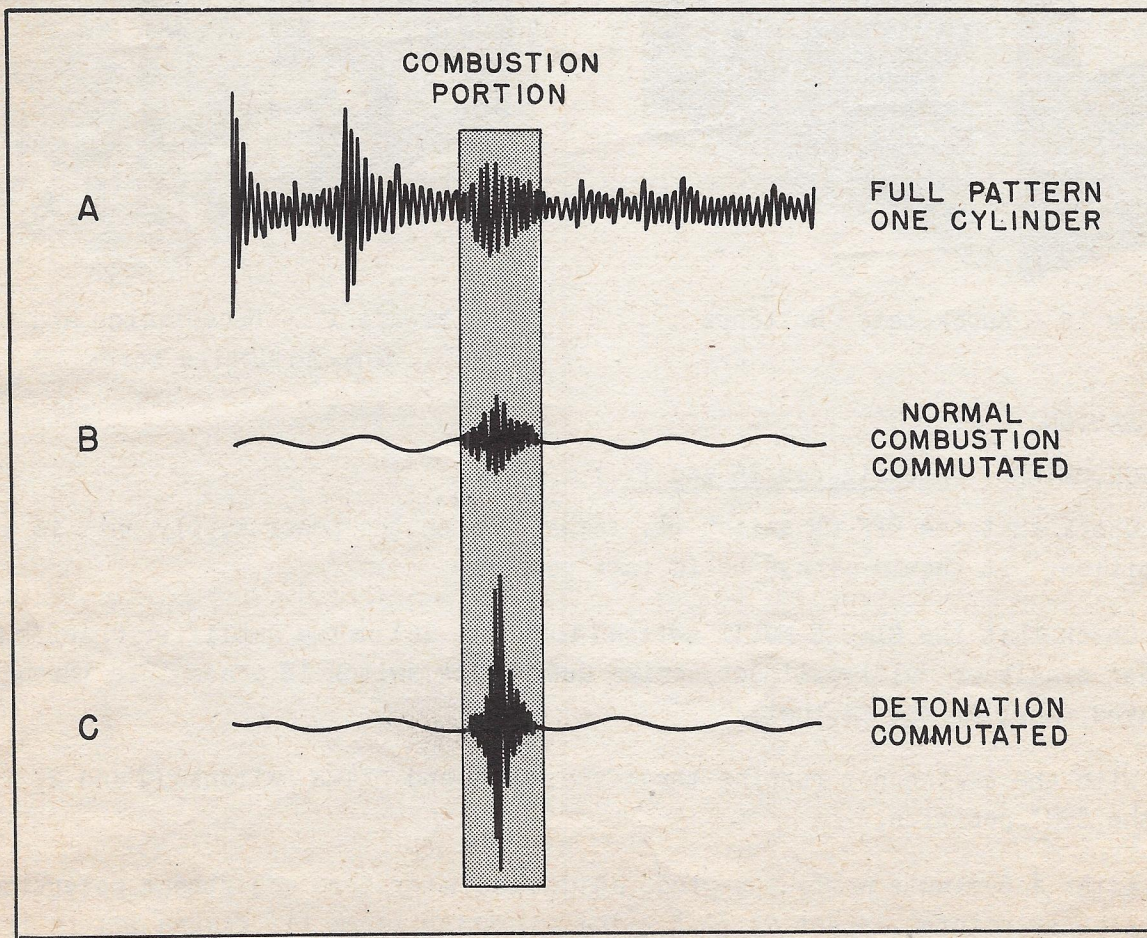

Figure 18 - Oscilloscope Patterns
b. COMMUTATOR TIMING. (See figure 18.)
- (1) Check that the METER switch is in the "OFF" position.
- (2) With the engine running, connect the cable from an oscilloscope to the receptacle marked "OSC" on the amplifier chassis.
- (3) Set the PATTERN switch on the junction box to "FULL." With the oscilloscope sweep frequency properly adjusted, the image on the oscilloscope should resemble A of figure 18.
- (4) Set the switch to "COMBUSTION;" the image should be similar to B of figure 18.
Should detonation be present in the "COMBUSTION" position, the pattern will resemble C of figure 18.